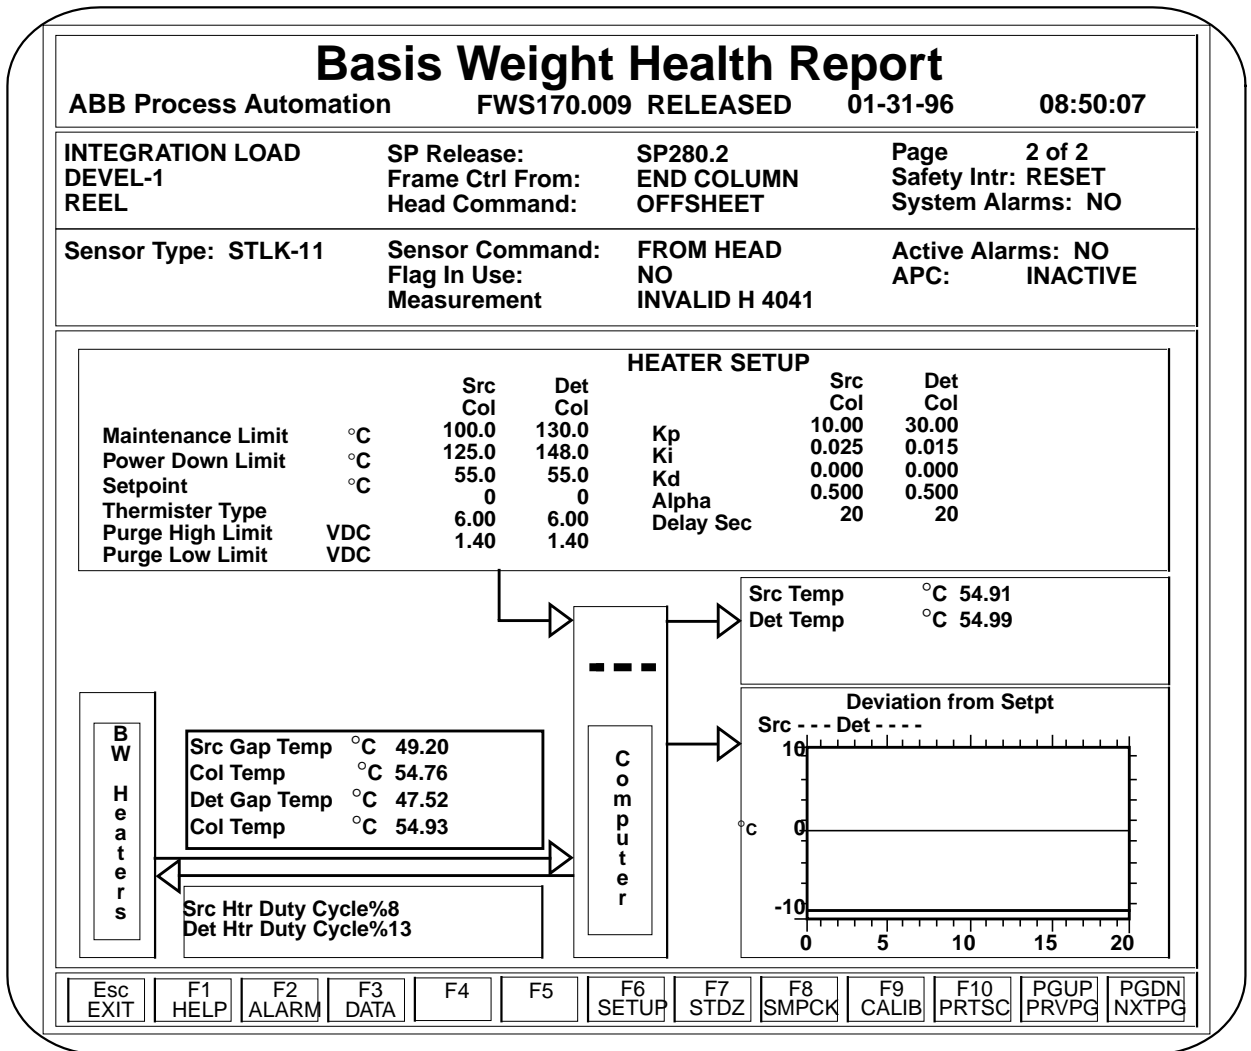

Figure 6-2 Example of Basis Weight Health Page 2 of 2 for Heater Setup
Temperature control maintains the measurement area environment for critical internal components and controls the temperature of the external air column (CAP). Standard operating conditions include mill air temperature environments that vary between 10°C and 85°C and sheet temperature up to 148°C. The environment for internal components and the temperature of the external air column are controlled by the microcontrollers in the AccuRay Smart Processing Center (ASPC). The software control has an accuracy of $\pm 2^\circ\text{C}$ and will maintain the set point within a precision of 0.5°C. Controller set up is done at the Service Workstation using the Caliper, Ash, and Basis Weight Health Pages. See Figure 6-2 on page 119 for an example of the Basis Weight Health Page (the Ash Health Page is similar). For instructions on how to use the health pages, see the section entitled “Operation of the Sensor Health Pages” on page 116. Do not change the kp, ki, or kd constants without consulting a specialist.
8. Jog the head package to the coldest location, probably off-sheet, for at least one hour. Verify that the source and detector heater duty cycle is less than 90%. See Figure 6-2 on page 119 for detector heater and source heater duty cycles.
1. Access the Basis Weight Health Report from the Service Workstation. Refer to Figure 6-2 on page 119.